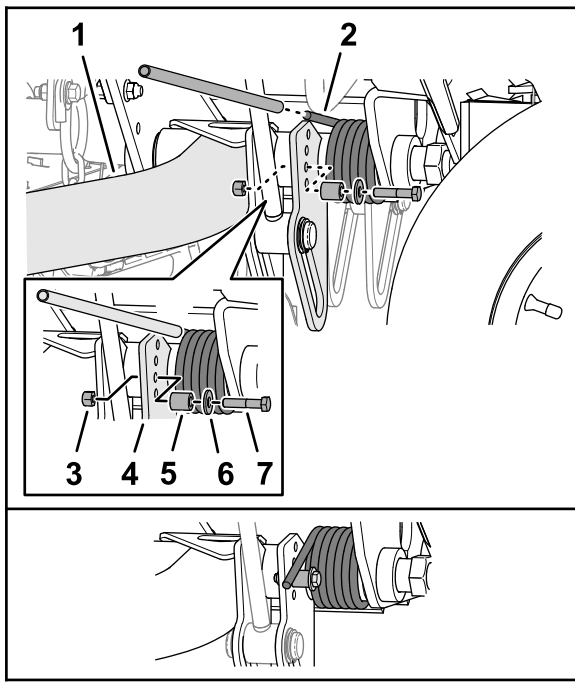

Figure 40
2. Insert a tube or similar object over the long leg of the spring, and lift the spring leg to relieve pressure on the spacer (Figure 40).
3. While holding the spring, remove the bolt, washer, and locknut from the lift plate (Figure 40).